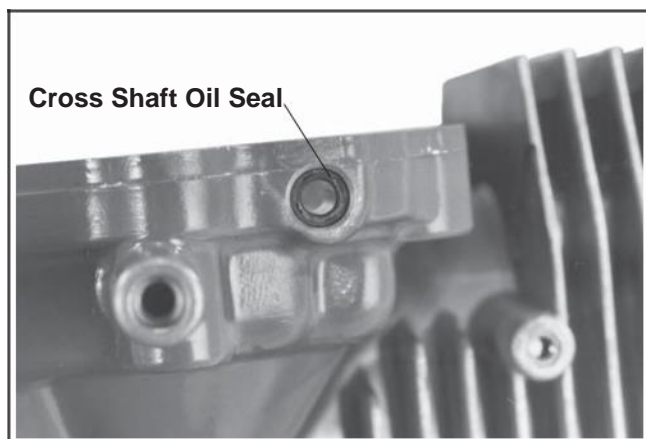

Figure 11-2. Cross Shaft Oil Seal.
3. Using the KO1030 oil seal installer, install a new governor cross shaft oil seal into the crankcase. See Figure 11-2.